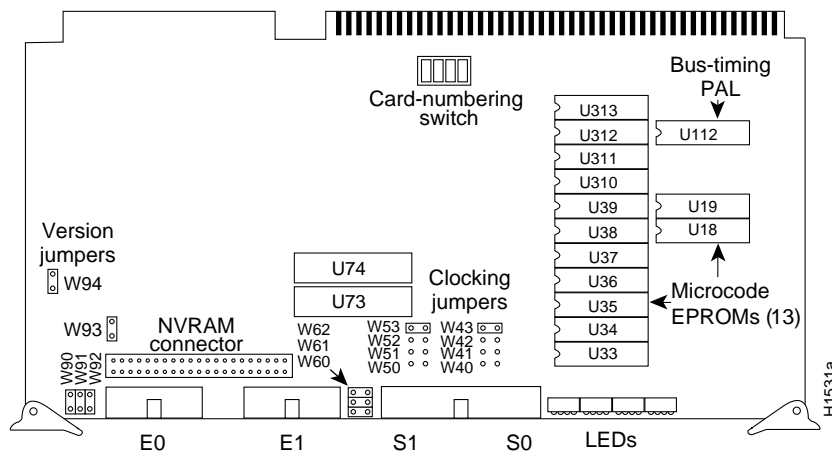

Figure 13 CSC-MCI Card—Component-Side View
The bus-timing PAL on the CSC-MCI is in socket U112, which is located on the right rear portion of the card. (See Figure 13.) If the PAL is already Part Number 17-0675 (or later), the CSC-MCI card needs no further modification. If the PAL is old Part Number 13/107A or 17-0038, use the following procedure to remove the CSC-MCI from the card cage and replace the PAL.
- Step 2** Remove the card. Use your thumbs to pull the ejector tabs out and away from the card edge to loosen it, and pull the card out of its slot. Place the removed card on an antistatic mat or antistatic foam. (Refer to Figure 13.)